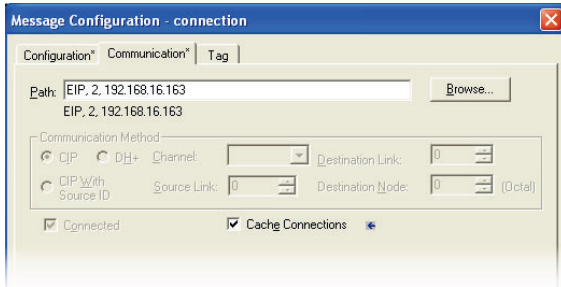

Figure 71: Setting the Communication Path
- d) “Communication” tab settings (refer to Figure 71):